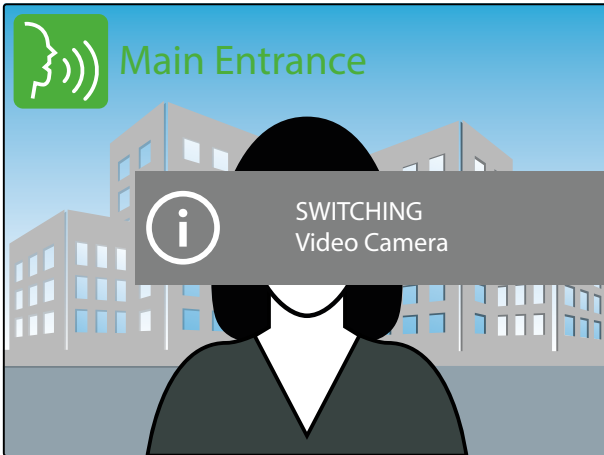

Fig. 43 Switching video source
- During the conversation press and keep pressed the  button until the display shows the camera switching notice (Fig. 43).